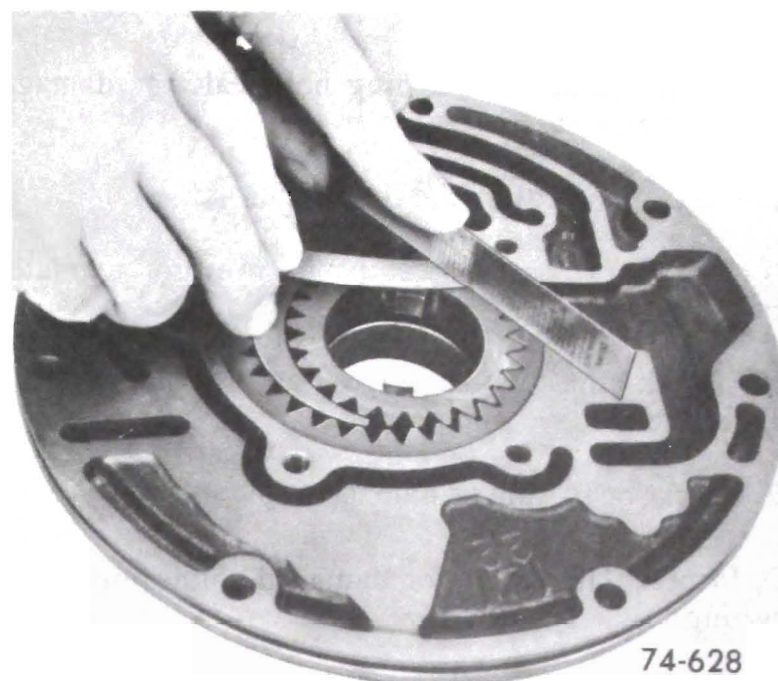

Figure 76-163
a. Pump body face to gear face clearance. Clearance should be .0008" - .0035". See Figure 76-163.